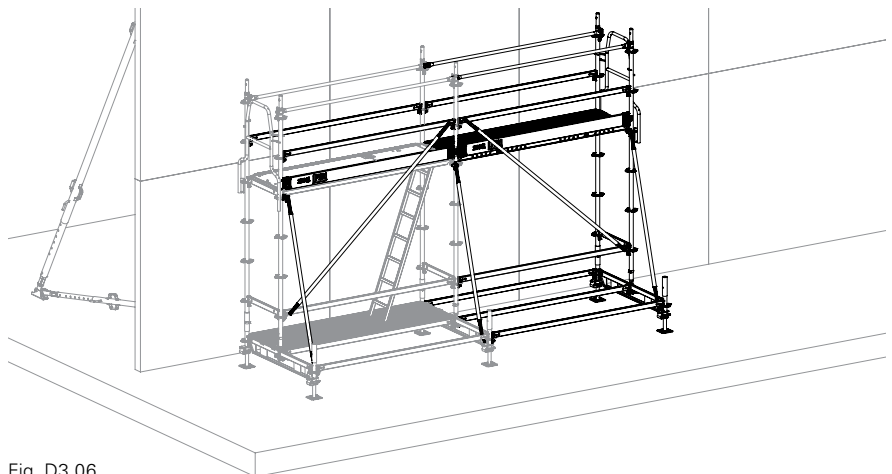

Fig. D3.06
10. Repeat steps 3 to 8 for the next bays and mount components to ensure stability. (Fig. D3.06)